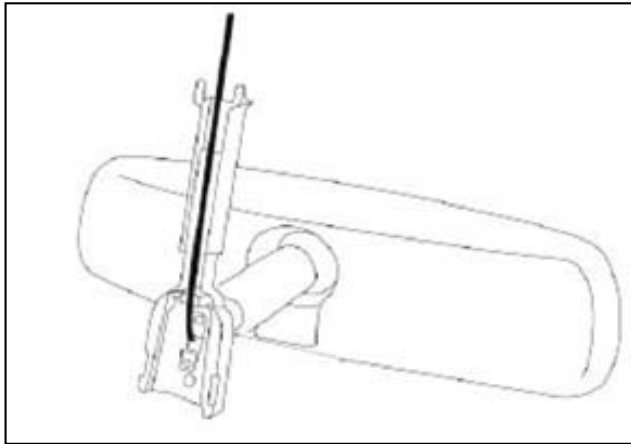

Figure 12
- a. Install the wire harness cover over the wire harness. Seat the bottom of the cover securely to base of the mirror. Extend the top of the cover fully into headliner. See figure 12.